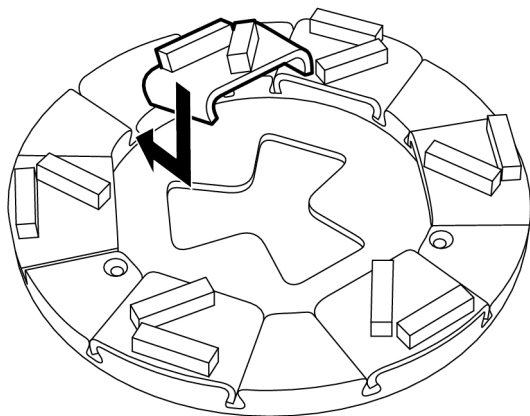

Figure 4-3. Fitting grinding tools
1. Slide the grinding tool diagonally, from above, down into the appropriate guide slot on the tool holder, see Figure 4-3, page 16. Then push the tool fully into the guide slot.
2. Slide the grinding tool diagonally, from above, down into the appropriate guide slot on the tool holder, see Figure 4-3, page 16. Then push the tool fully into the guide slot.